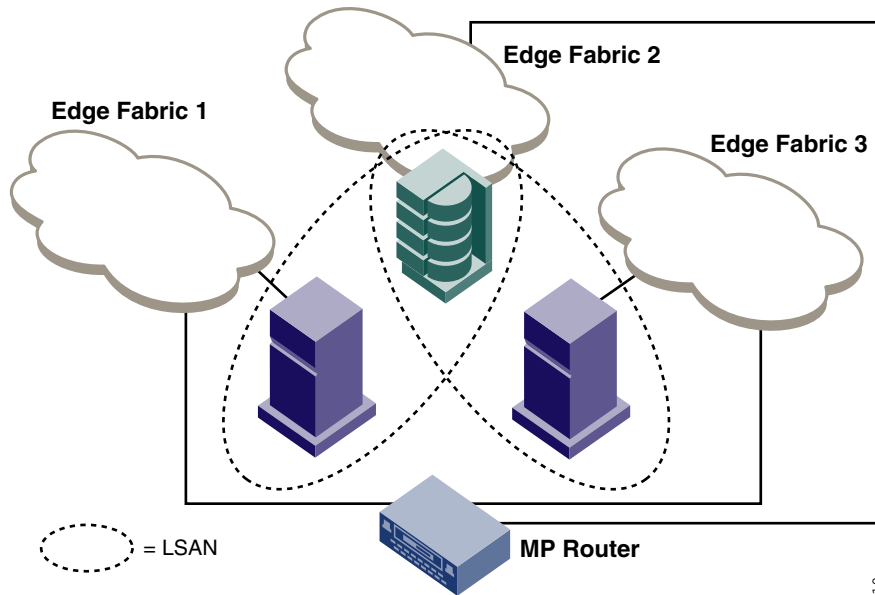
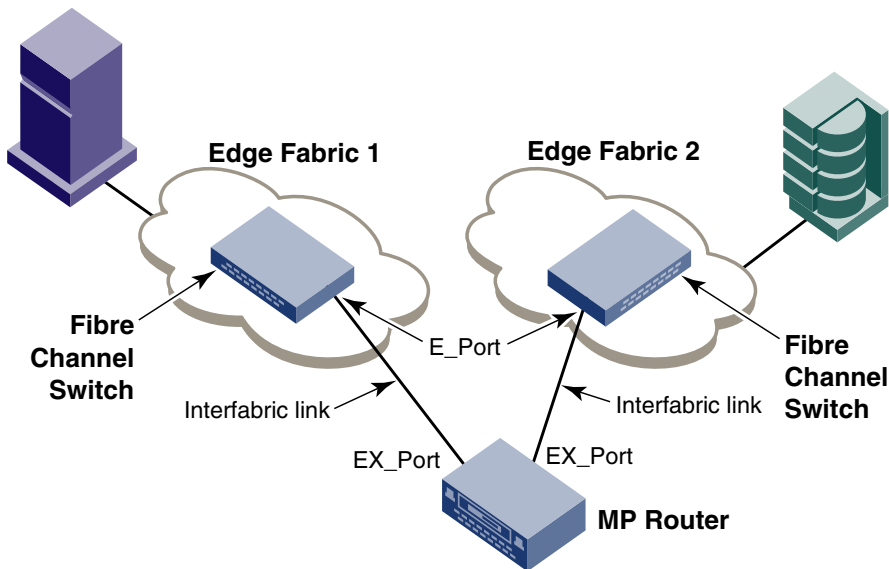
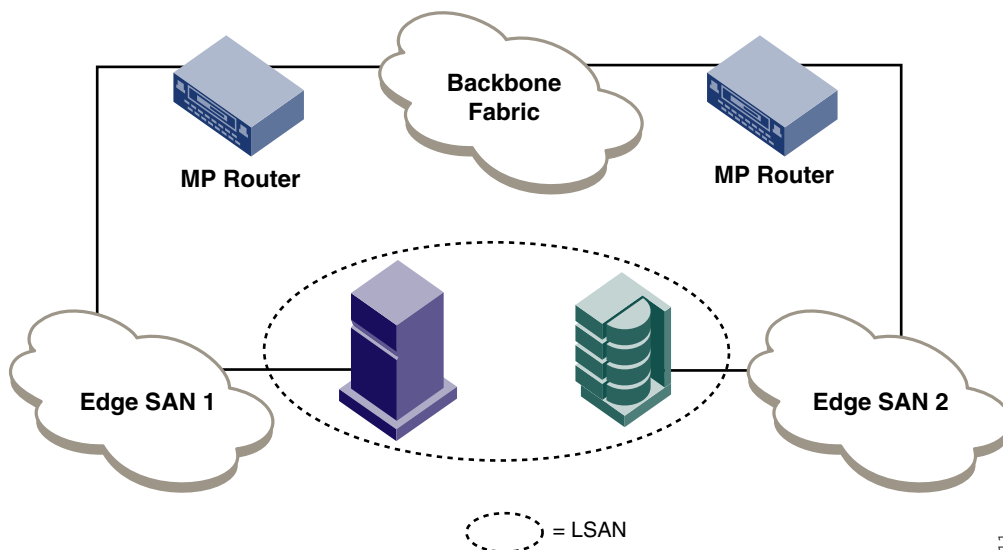

Figure 192 Simple meta-SAN
Figure 193 Meta-SAN with interfabric links
Figure 194 Edge SANs connected through a backbone fabric
Switches running XPath OS v7.1.0 or later can run a software application that enables you to share devices between two or more fabrics by using that switch as a Multi-protocol (MP) Router to connect to the different fabrics (see Figure 192). The MP Router has a new port type (EX_Port) that provides the connectivity between edge fabrics by using Interfabric links (see Figure 193 on page 308) or a backbone fabric (see Figure 194 on page 308).
Figure 193 shows a meta-SAN consisting of two edge fabrics connected through an MP Router with interfabric links. Figure 194 shows another meta-SAN consisting of a host in Edge SAN 1 connecting to storage in Edge SAN 2 through a backbone fabric connecting two MP Routers.
You can share devices between fabrics without merging them together with the use of an MP Router (see Figure 192 on page 307). Fabric Manager allows you to set up the shared devices easily with the Share Devices wizard. Using the Share Devices wizard, you must first select the devices you want to share, then the wizard creates a logical SAN.
Fabric Manager allows you to connect edge fabrics to each other (see Figure 193 on page 308). Select the MP Routers to be connected to the selected edge fabric. MP Routers from different backbone fabrics cannot be selected for this operation. Specify the Fabric ID for the edge fabric. The edge Fabric ID is unique across a backbone fabric (see Figure 194 on page 308). If the selected edge fabric is already connected to the selected backbone fabric (or any other backbone fabric), the Fabric ID menu is already populated with the current value and disabled. The EX_Port parameters for *R_A_TOV*, *E_D_TOV*, and the PID Format are also set to match the edge fabric values of these parameters.